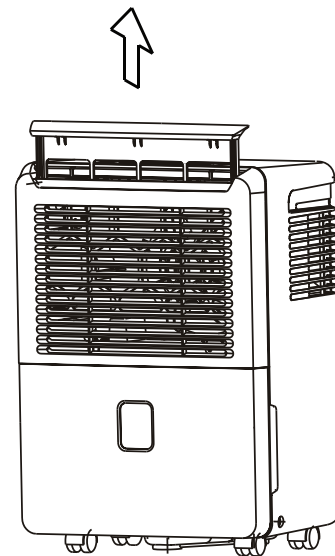

Fig. 11a
- Remove the filter from the top of the unit (See Fig. 11a)